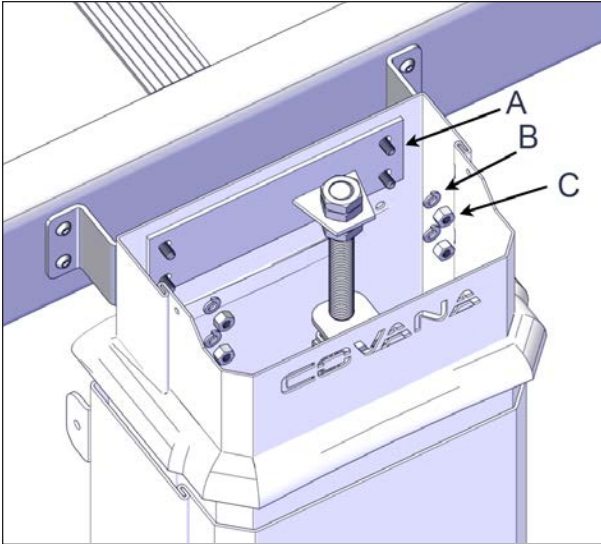

FIGURE 112: JACK ADAPTER SCREW REMOVAL
3. Remove the 1/4-20 x 3/4" carriage bolts (4) of the jack adapter, from each post using a 7/16" (11 mm) socket wrench, see Figure 112.